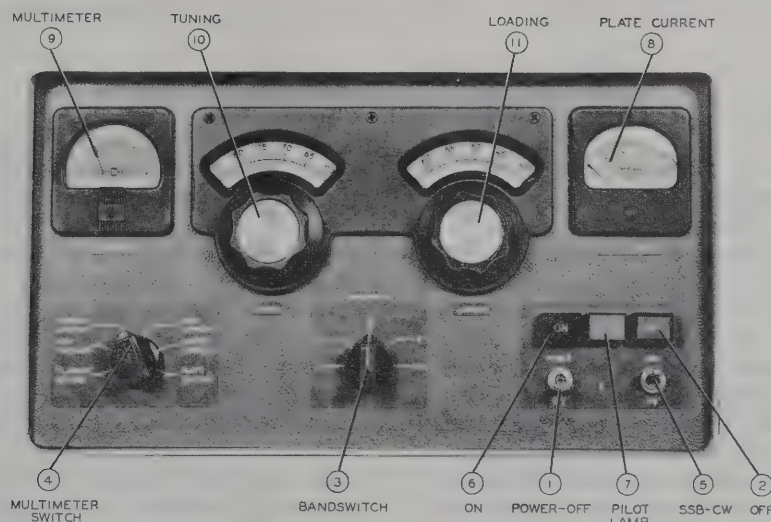

Figure 6. 30S-1 RF Linear Amplifier, Operating Controls
p. Refer to figure 6. Set POWER-OFF switch (1) to POWER. Set SSB-CW switch (5) to SSB and MULTIMETER switch (4) to FILAMENT VOLTAGE. Be sure the plate power is off and the rectangular red pilot lamp (7) is out. The following adjustments are made without excitation.
t. Set exciter MIC GAIN control fully counter-clockwise to produce zero drive, and set the exciter EMISSION switch to TUNE position. Idling plate current will be indicated on the 30S-1 PLATE CURRENT meter (8).
v. When these adjustments are completed, press the plate OFF pushbutton (2).
3. Operation in SSB or CW Service. (Refer to figure 6.)
a. Set POWER-OFF switch (1) to POWER.
4.8 DESCRIPTION OF CONTROLS AND INDICATORS. (Refer to figure 6.)